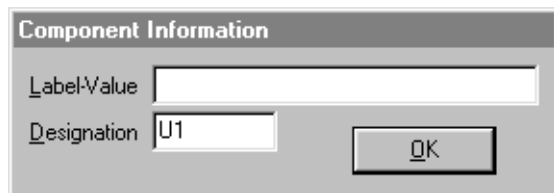

Figure 3.6. For this tutorial, type U1 as the component's Designation.
- 4 Type **U1** in the Designator text box in the dialog shown in Figure 3.6. Leave the Label-Value text box empty. Choose OK.